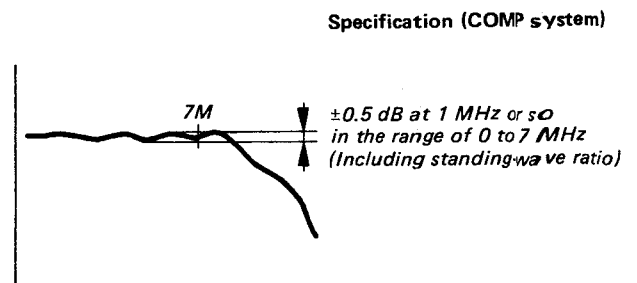

Fig. 5-54.
13. Set the INPUT switch to the TEST position, and adjust RV6 on the Q board so that the output waveform is flat in the range of 0 to 7 MHz. (See Fig. 5-54.)
14. Set the INPUT switch to the A position, and adjust CV2 on the Q board so that the output waveform is flat in the range of 0 to 7 MHz. (See Fig. 5-54.)
15. Set the INPUT switch to the B position, and adjust CV4 on the Q board so that the output waveform is flat in the range of 0 to 7 MHz. (See Fig. 5-54.)
(Fig. 5-54 and 5-55 show the case when the board is actually mounted.)